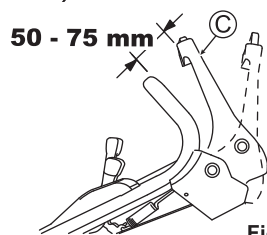

Fig. 34.
Adjust so that the blade starts rotating when the distance between Blade lever (C) and the handle is 50 - 75 mm with the yellow button pressed as shown in Fig. 34.